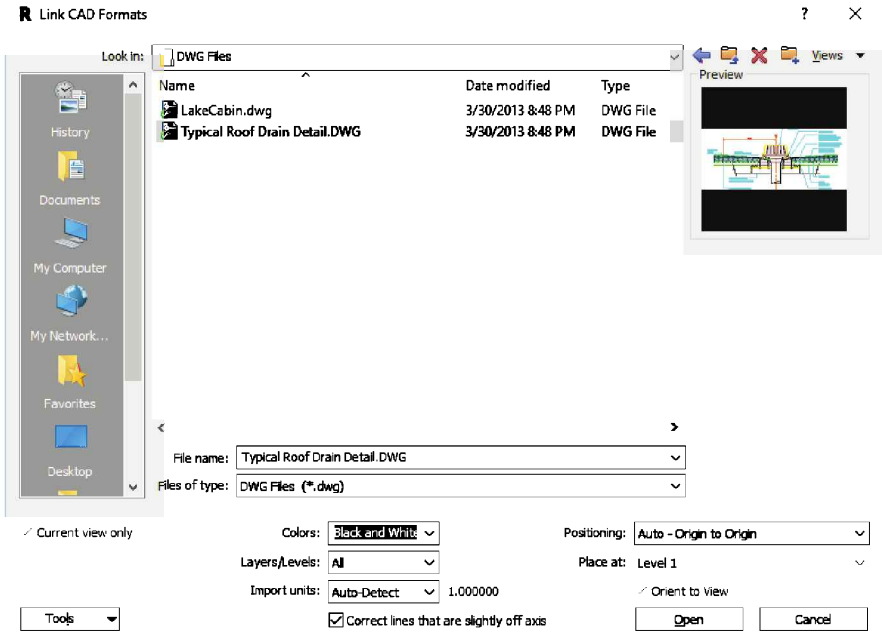

FIGURE 10-5.2 Linking an AutoCAD detail file
- 8. Set the *Colors* options to **Black and White** (Figure 10-5.2).